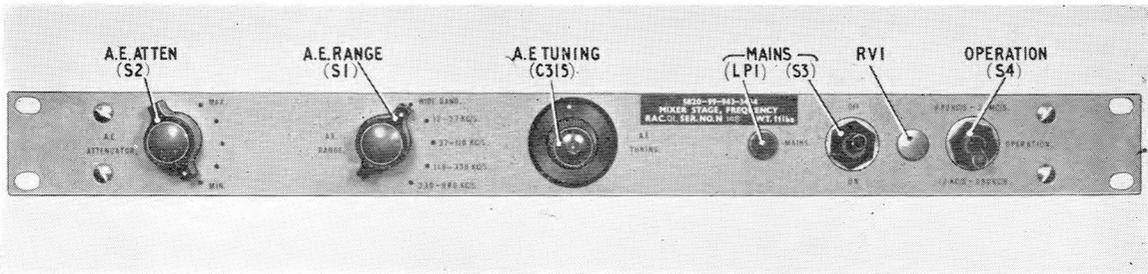

Fig. 2. L.F. converter-front panel
- (1) Set both MAINS switches to ON.
- (2) Set the OPERATION switch on the l.f. converter to the required frequency range (fig. 2).